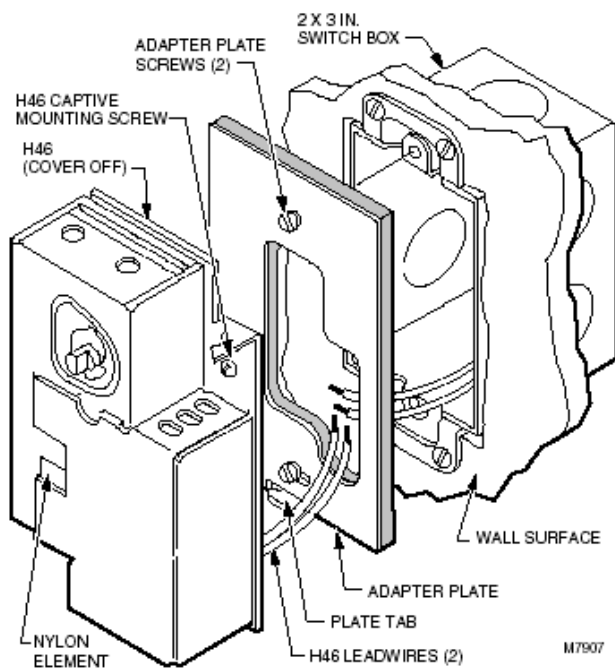

Fig. 1. Mounting H46P on vertical switch box
- 4 Using the two screws provided, fasten the adapter plate to the switch box as shown in Fig. 1.